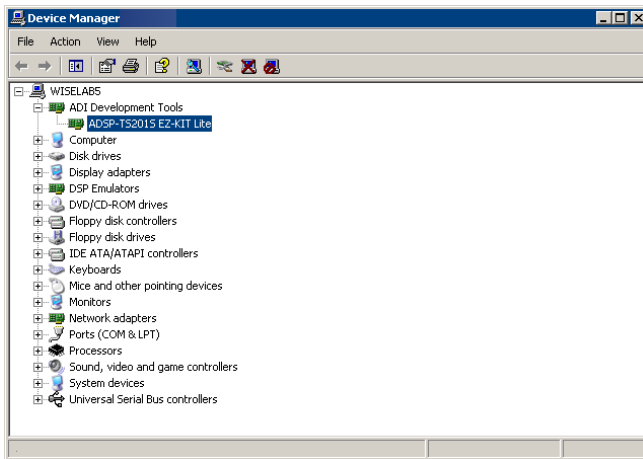

Figure 1-12. Device Manager Window
5. Verify that the USB driver software is installed properly. Open Windows **Device Manager** and verify that **ADSP-TS201S EZ-KIT Lite** shows under **ADI Development Tools** with no exclamation point, as in Figure 1-12.